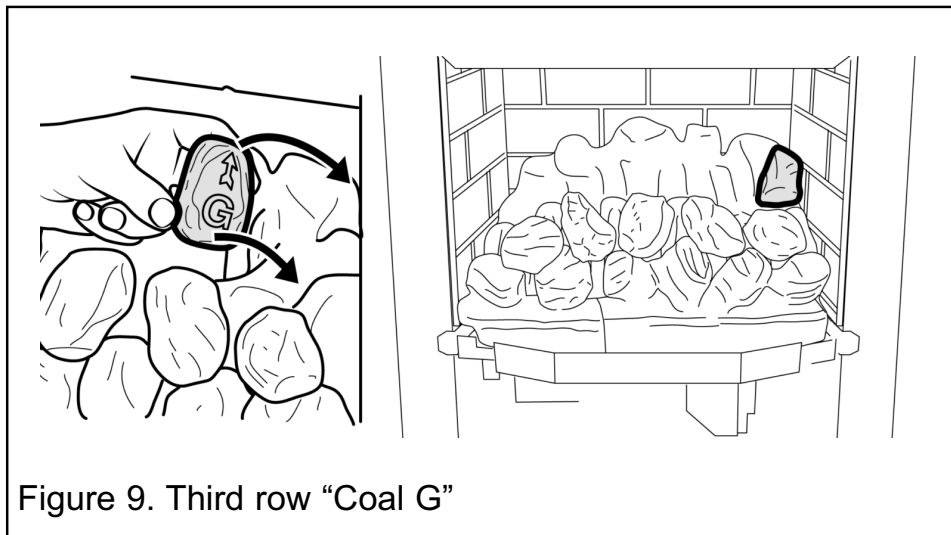

Figure 9. Third row "Coal G"
11. Hold coal 'G' upright with the arrow pointing to the top. Locate coal 'G' as shown in figure 9.